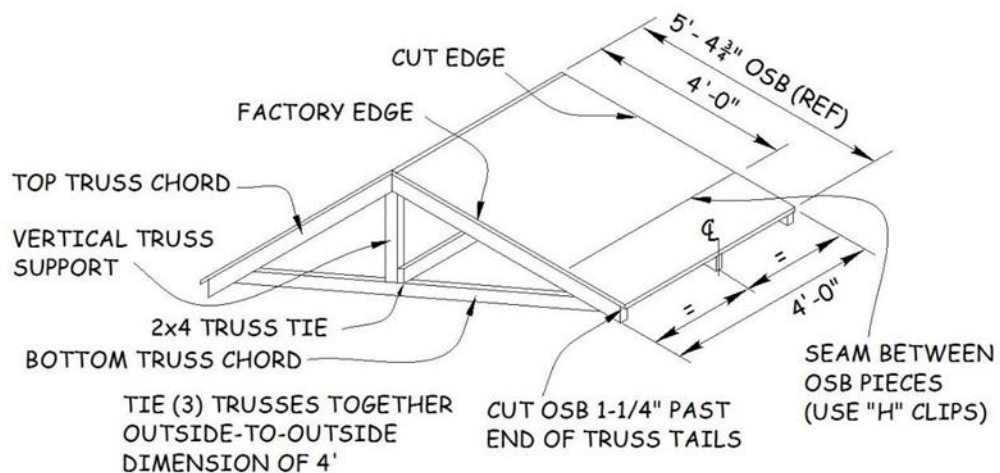

Figure 22-9. Shed Truss Component Assembly.
3. Cut two pieces of 2x4 exactly 4' long to create "truss ties". Set three trusses on their tails. Set one of the 4' truss ties on edge on top of the bottom truss chord and tight to the vertical truss support (see Figure 22-9). Position the truss tie flush to the outside edges of the two end trusses. Secure the truss tie to the two vertical truss supports on the end truss braces with two 3¹/₄" collated nails for each truss. Center the middle truss 24" from the outside edges of the end trusses and nail the truss tie to the vertical truss support with two 3¹/₄" collated nails.
NOTE: Aligning the cut edge with the sheathed end truss chord (See Figure 22-9) ensures the proper orientation of the OSB for roof strength.